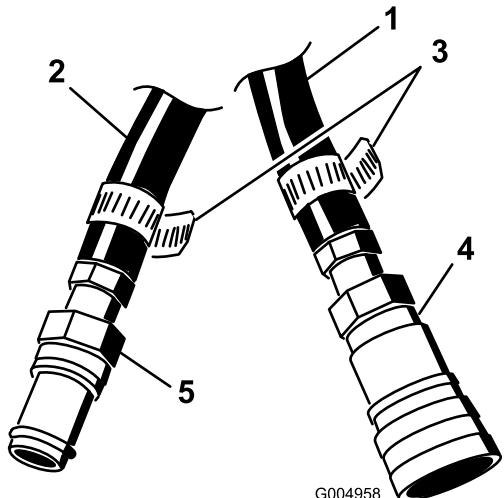

Figure 12
- Insert the barb end of a nipple coupler into the pressure hose and secure with a hose clamp (Figure 12).
- Insert the barb end of a quick disconnect coupler into the return hose and secure with a hose clamp (Figure 12).